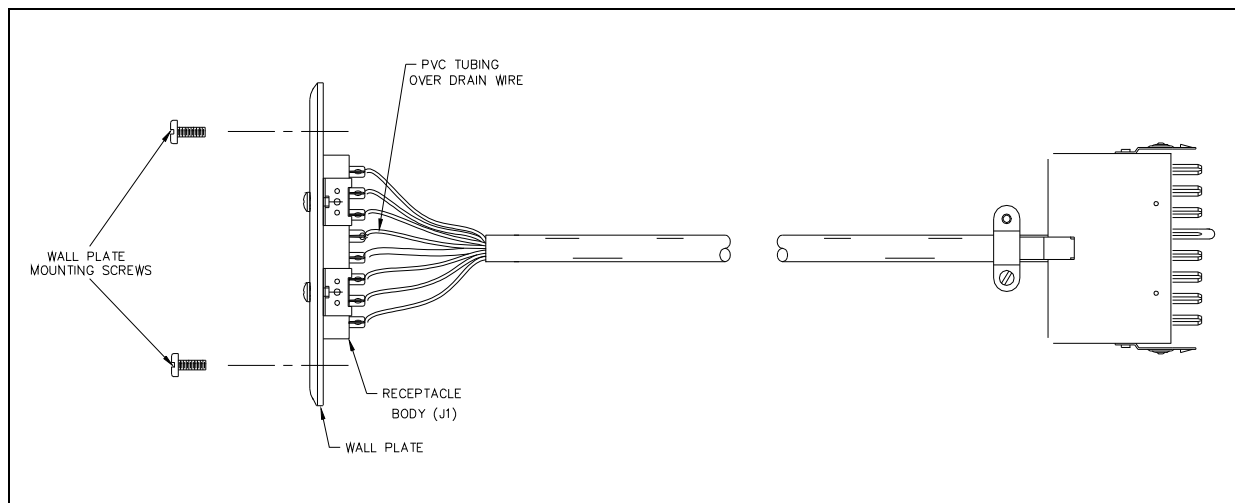
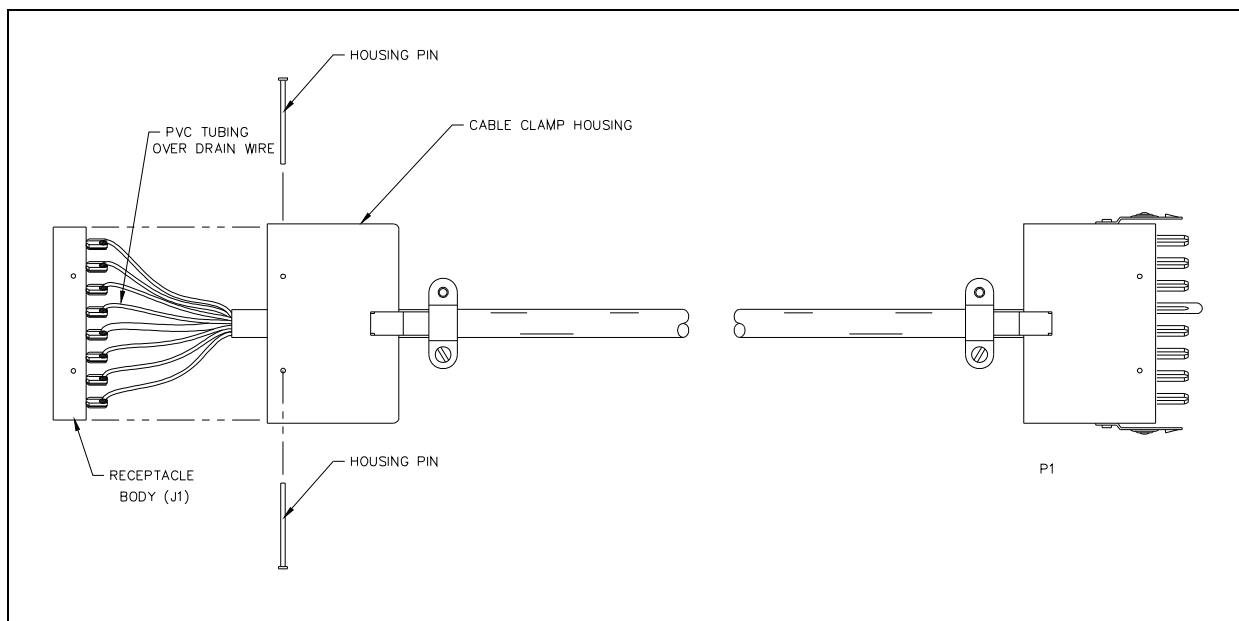
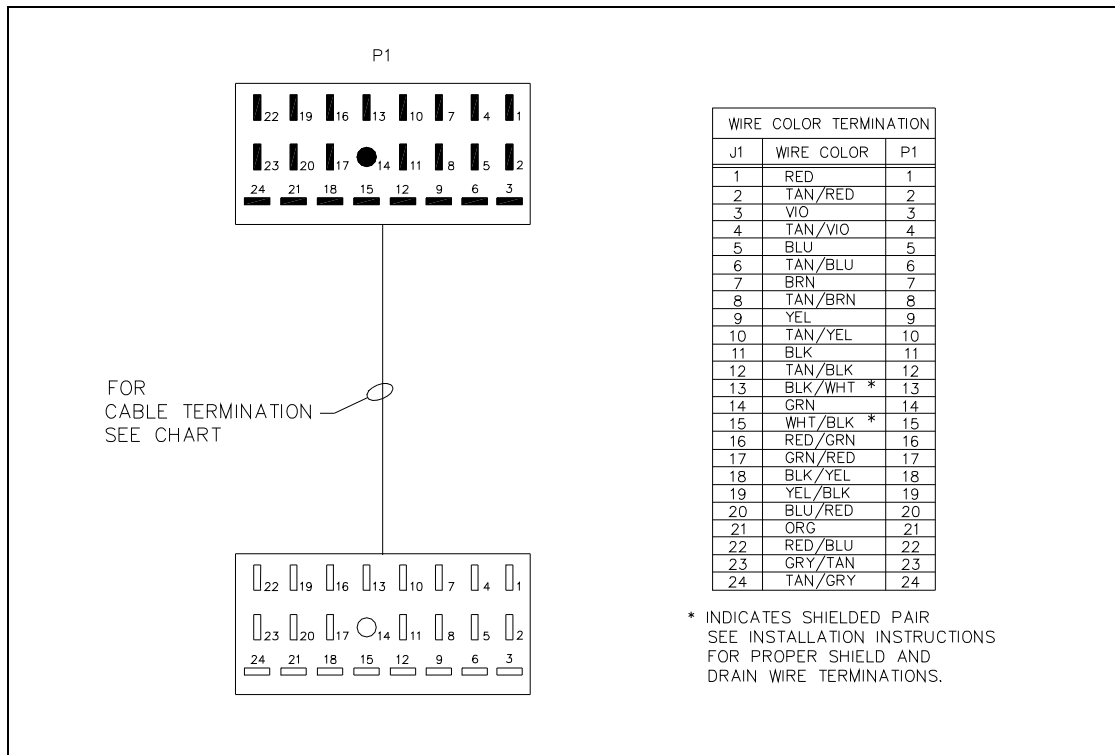

Figure 1. Installation as a Wall Receptacle
Figure 2. Installation as a Subset Extension
Figure 4. Wire Color Termination
5. See Figure 4 for proper wire color terminations. Solder all wire leads and drain wire to receptacle J1 on the wall plate as indicated in Figure 2. Make sure that there are no wire strands touching any other terminations.
5. See Figure 4 for proper wire color terminations. Solder all wire leads and the drain wire to receptacle J1 as indicated in Figure 1. Make sure that there are no wire strands touching any other terminations.